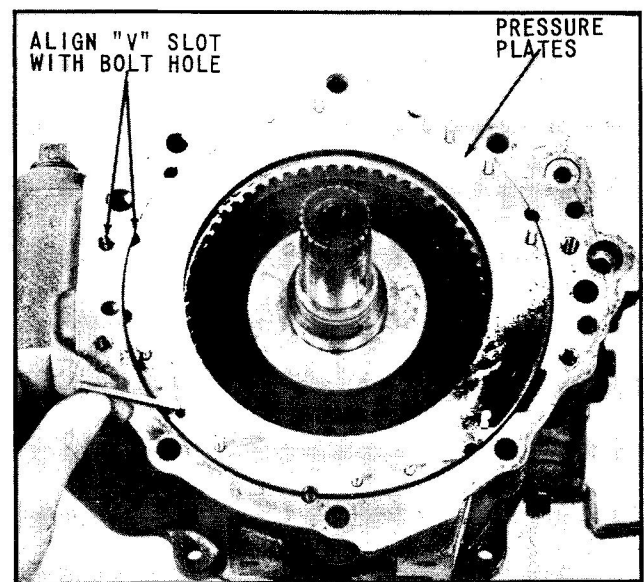

Fig. 51 Pressure Plate Installed
21. Install pressure plate, aligning the pins with holes in plate as plate is lowered into position, (Fig. 51).